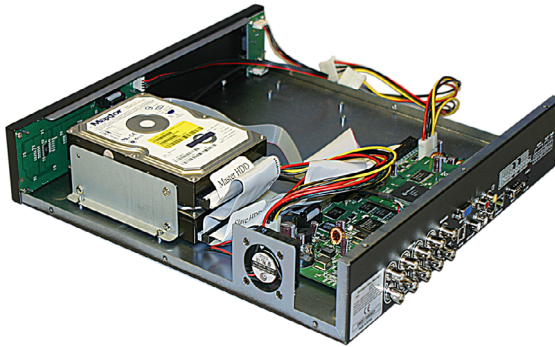

Figure 6. Locating the Hard Disk Drives
1. Locate the hard disk drive in the front of the DVR (refer to Figure 6). In a two-drive unit, the primary (master) and secondary (slave) hard disk drives are stacked on top of each other.
- b. Remove the screws that secure the brackets to the chassis floor. (Refer to Figure 6.)
- c. Remove the nut screws that secure the damaged hard disk drive to the brackets. (Refer to Figure 6.) It is not necessary to remove both hard disk drives if you are replacing only one of them.